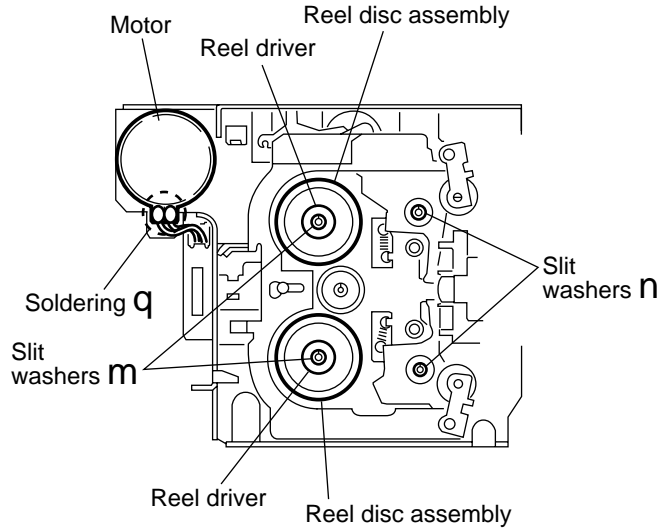

Fig.8
■Removing the reel disc assembly (twin set) (See Fig.8 to 10)
■Removing the flywheel assembly (F) and (R) (See Fig.8 and 11)
3. Pull out the flywheel assembly (F) and (R) from underside of the mechanism assembly.
■Removing the motor (See Fig.8 and 11)